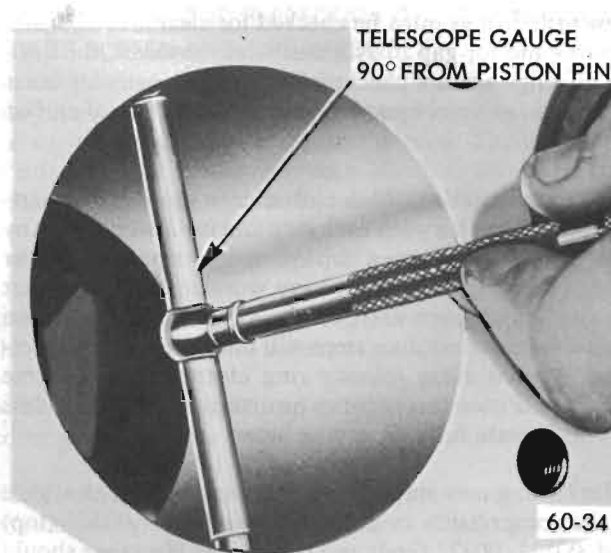

Figure 60-43 - Checking Cylinder Bores
1. Expand a telescope gage to fit the cylinder bore at right angles to the piston pin 2-1/2" from top. See Figure 60-43.